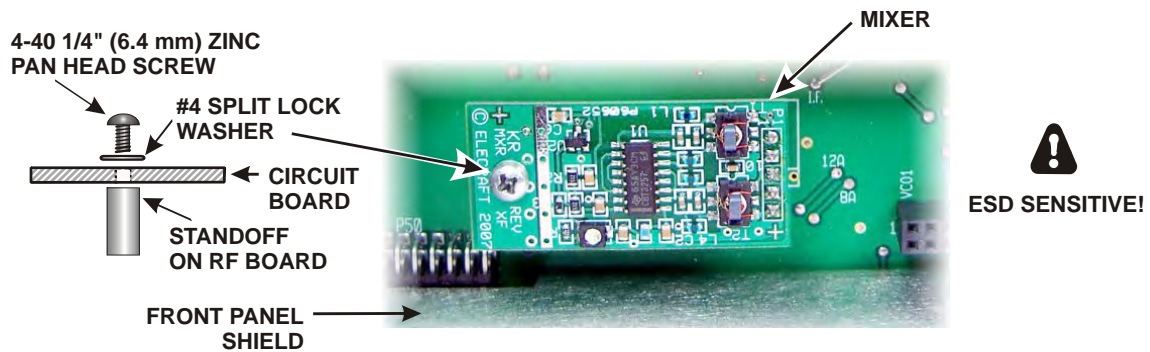

Figure 14. Installing K3 Mixer Board.
□ Mount the K3 mixer board on the RF board as shown in Figure 14. The mixer plugs into Z1 on the RF board.